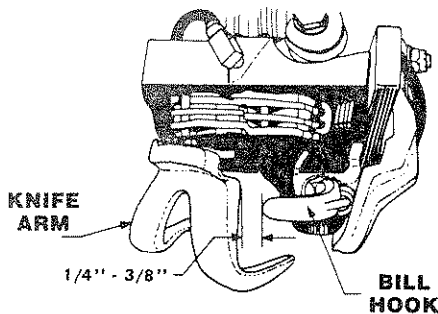

Fig. 27
2. The knife arm should be  $\frac{1}{4}$  inch to  $\frac{3}{8}$  inch past the end of the knotter bill hook when the knife arm is in the most extreme position, see Fig. 27. Correct the adjustment of the knife arm by replacing it. NOTE: On knotters with a coiled twine holder spring measurements are  $\frac{3}{4}$  inch to  $\frac{7}{8}$  inch.